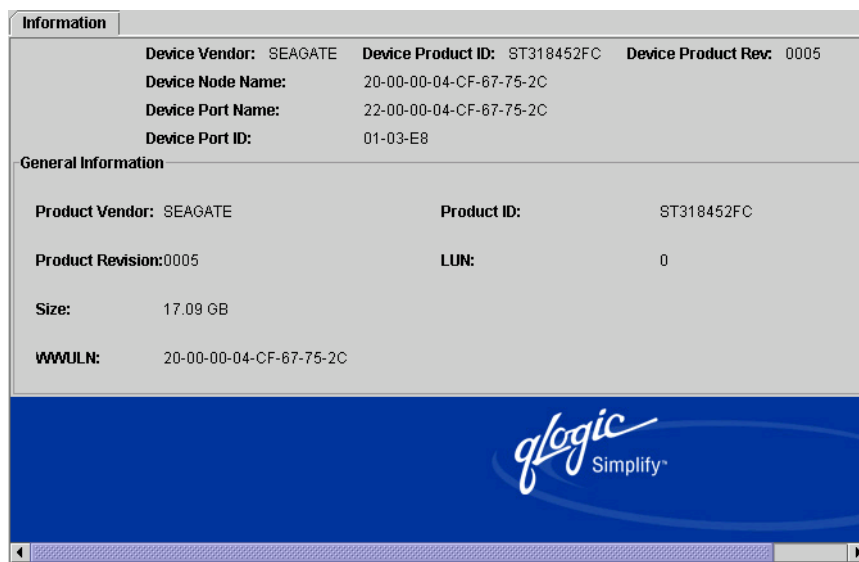

Figure 9-18. LUN Information Tabbed Page
2. Select the **Information** tab. The **LUN Information** tabbed page displays (see figure 9-18).